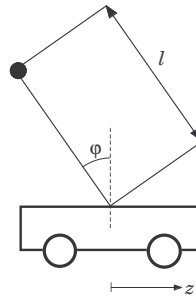

Figure 7.1 Inverted pendulum in exercise 7.4.
- 7.4** When walking, the body is kept in upright position by some regulatory system. This balancing of the body can be simplified to the problem of controlling an inverted pendulum positioned on a cart, by moving the cart. In Fig. 7.1, a schematic of this inverted pendulum is given.